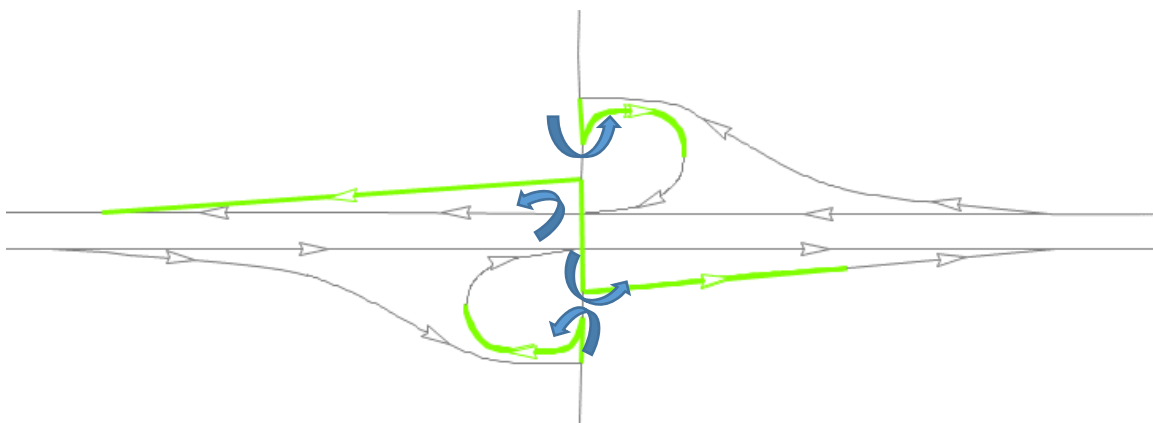

Figure 2: Example of Prohibited Turns
- The official SCAG model does not implement any turn penalties. However, turn penalties are needed for many ramps in the SR-118 project to make sure these ramps are represented correctly in the highway network. Figure 2 shows examples of prohibited turns. The curved arrows in Figure 2 are turn movements that were prohibited.